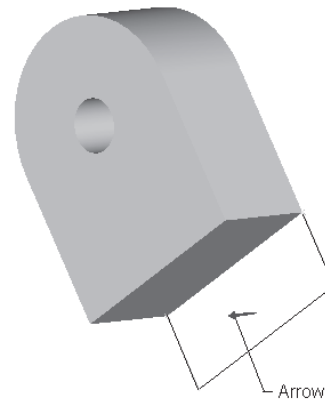

Figure 4-49 Arrow showing the direction of feature depth
3. Use the CTRL+middle mouse button to orient the model as shown in Figure 4-49. This orientation of the model gives you a better view of the sketch in the 3D space. The red colored arrow is also displayed on the model, indicating the direction of extrusion.